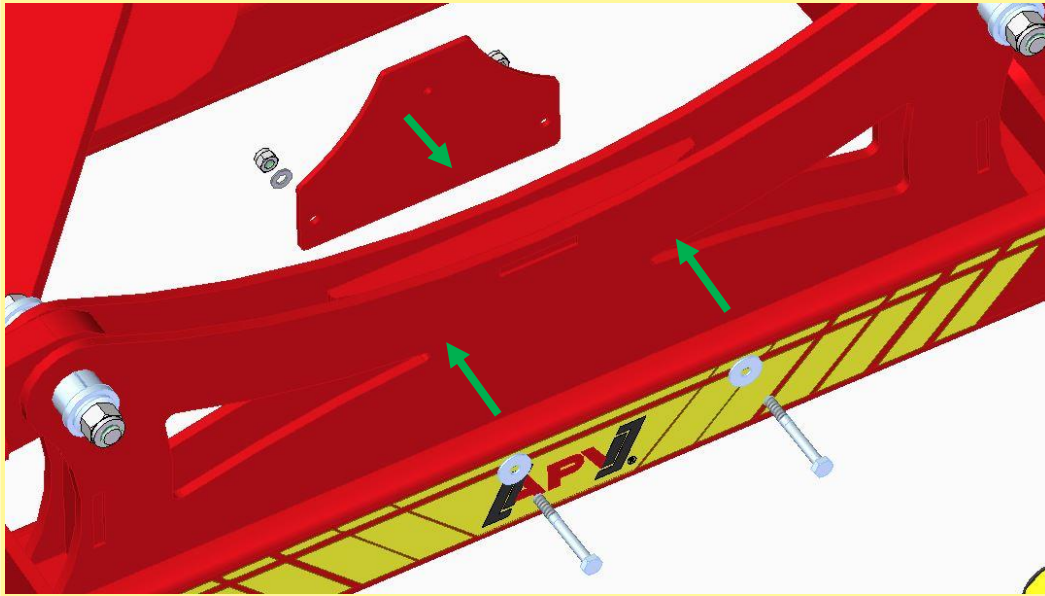

Figure 1: Installation of the base plate on the cylinder mount
- 1) The base plate clamped onto the cylinder mount using 2 hexagonal bolts M8x70 incl. large diameter washers M8x25, flat washers M8 and locking nut M8 (Figure 1).